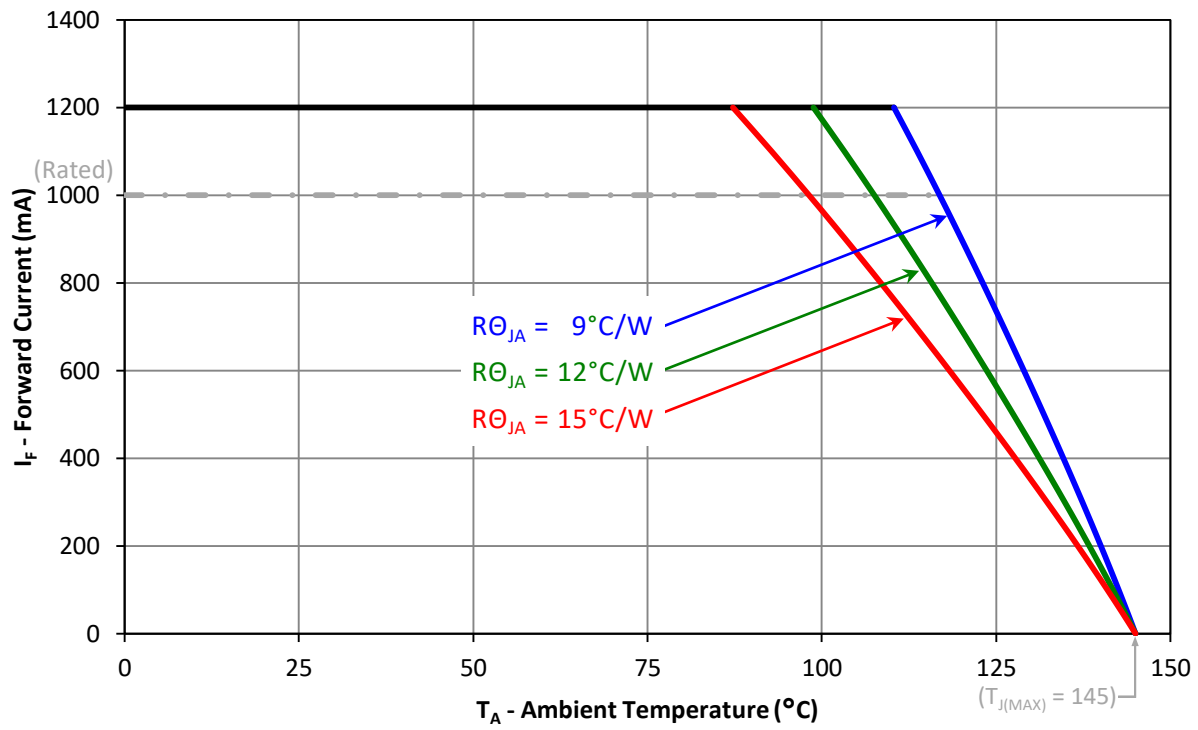

Figure 11: Maximum forward current vs. ambient temperature based on  $T_{J(\text{MAX})} = 145^\circ\text{C}$ .
- Maximum DC forward current is determined by the overall thermal resistance and ambient temperature. Follow the curves in Figure 11 for current derating.
Notes for Figure 11: